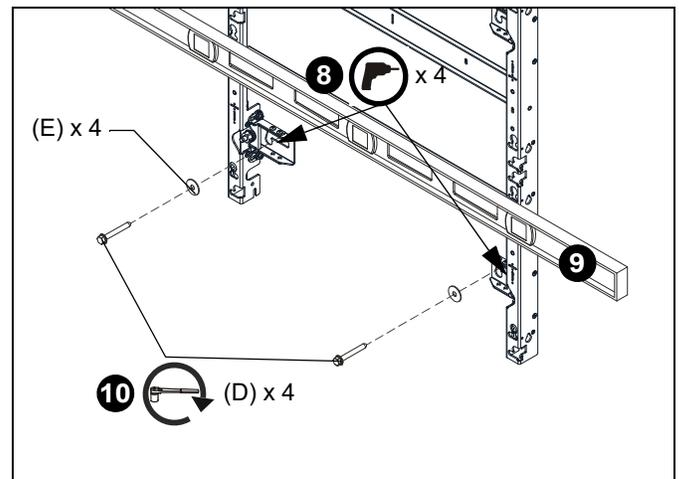

Figure 21
9. Double check the level of the mount at the bottom of the teardrop slots, and make sure the new mount stays perfectly aligned with the upper or lower mount to which it was attached. (See Figure 21)
10. Fully tighten the fasteners. (See Figure 21)